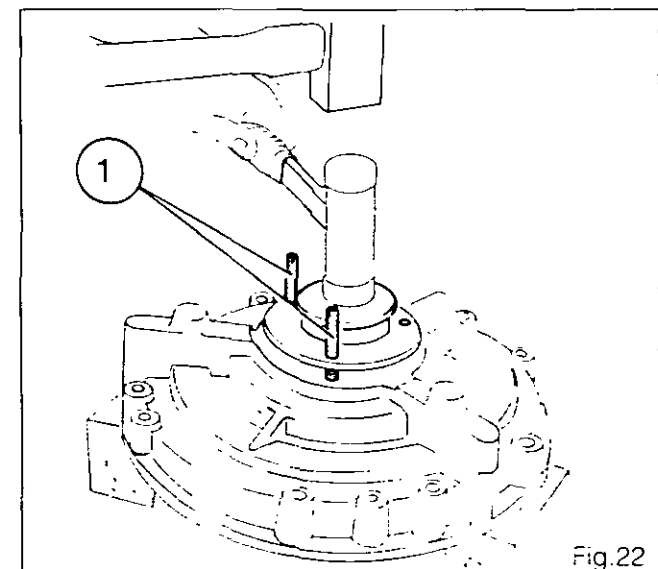

Fig.22
73. Apply a gasketing compound (Loctite Masterjoint 510 or equivalent) to the mating face of the cover to allow the ring carrier (33) to be fitted.
74. Screw two pilot pins (1) into the cover. Engage the ring carrier in the cover bore (Fig.22).
75. Tap the ring carrier home in the cover (Fig.22).